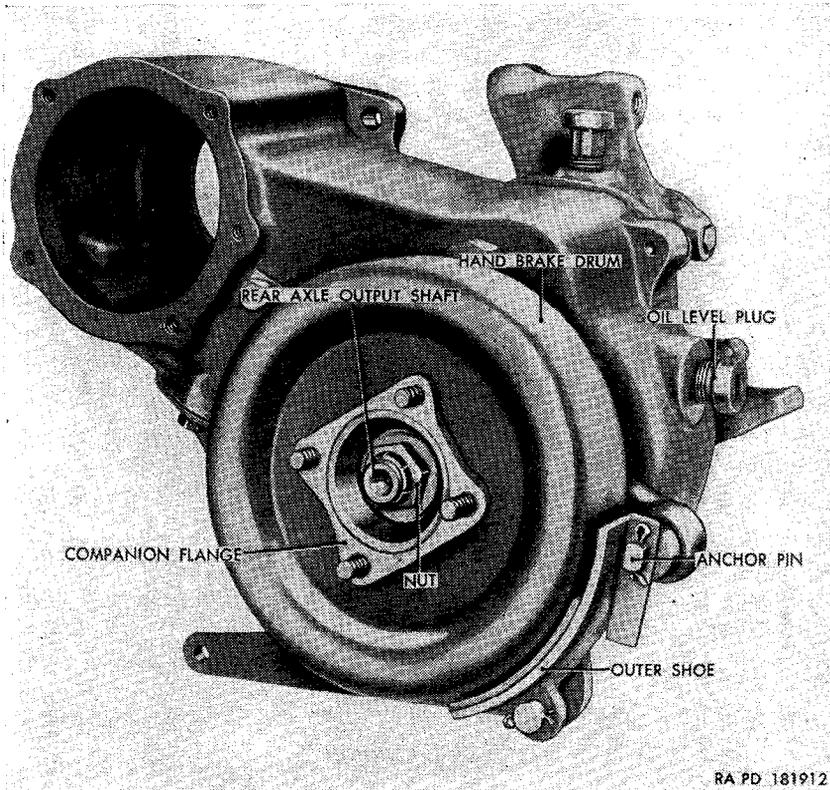

Figure 128. Transfer removed.
- h.* Remove the nut (fig. 128) and washer securing the companion flange to the rear axle output shaft. Using a suitable puller, pull the
i. Remove the nut and lockwasher securing the anchor pin (fig. 128) to the transfer. Pull the anchor pin, with inner and outer shoes attached, from the transfer.
a. Insert the anchor pin (fig. 128), with inner and outer shoe attached, through the hole in the retainer of the transfer. Secure the pin to the retainer with one $\frac{5}{8}$ -inch washer and nut.
b. Position the hand brake drum (fig. 128) on the companion flange, with the drum rim toward the flange hub. Secure the drum to the flange with four $\frac{3}{8} \times 1\frac{1}{8}$ bolts with bolts in position shown in figure 128. Aline the flange splines with the rear axle output shaft splines. Install the flange on the shaft, making certain the inner and outer shoes are alined to mate with the brake drum rim. Using a soft mallet, tap the flange into position on the shaft. Secure the flange to the shaft with one $\frac{3}{4}$ -inch washer and $\frac{3}{4}$ -inch nut.